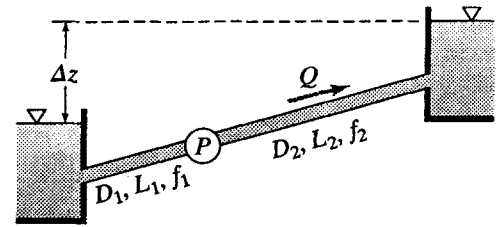

Figure P15.14
- 15.14 A centrifugal pump is installed to deliver water from a reservoir of water surface elevation zero to another of elevation 300 ft (Fig. P15.14). The 12-in-diameter suction pipe ($f = 0.020$) is 100 ft long and the 10-in-diameter discharge pipe ($f = 0.026$) is 5000 ft long. The pump characteristic at 1200 rpm is defined by $h_p = 375 - 24Q^2$, where the pump head h_p is in ft and Q is in cfs. Calculate the rate at which this pump will deliver water, assuming the setting is low enough to avoid cavitation.